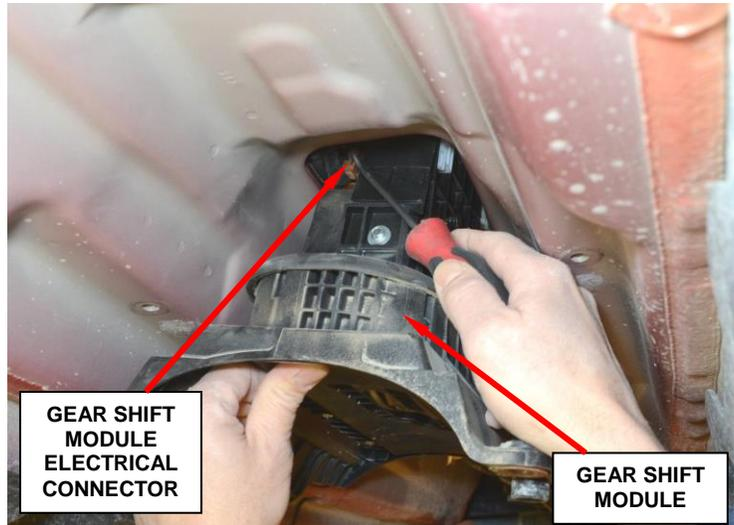

Figure 8 – Gear Shift Module Electrical Connector
21. Carefully lower the gear shift module and disconnect the electrical connector. Then remove the gear shift module from the vehicle (Figure 8).